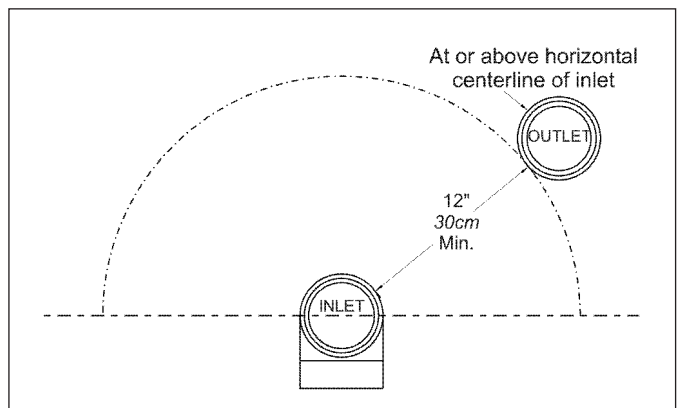

Figure 10. Minimum Venting Distance.
6. Vent outlet must be no lower than the center of the air inlet, and must be at least 12" (30cm) away from the air inlet (see **Figure 10**).